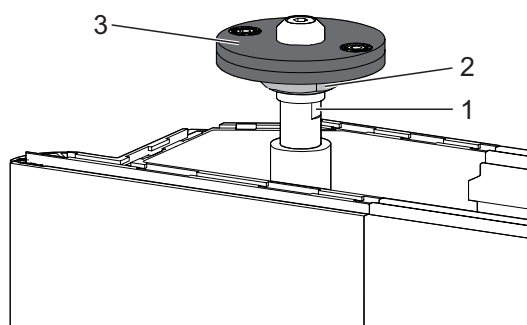

Fig. 25: Adjusting the pressure plate
3. Hold the bolt using a SW9 wrench (Fig. 25/1).
4. Loosen the nut (Fig. 25/2) using a SW18 wrench.
5. Turn the pressure plate (Fig. 25/3) with your hands upward or downward.
6. Retighten the nut (Fig. 25/2) using a SW18 wrench.